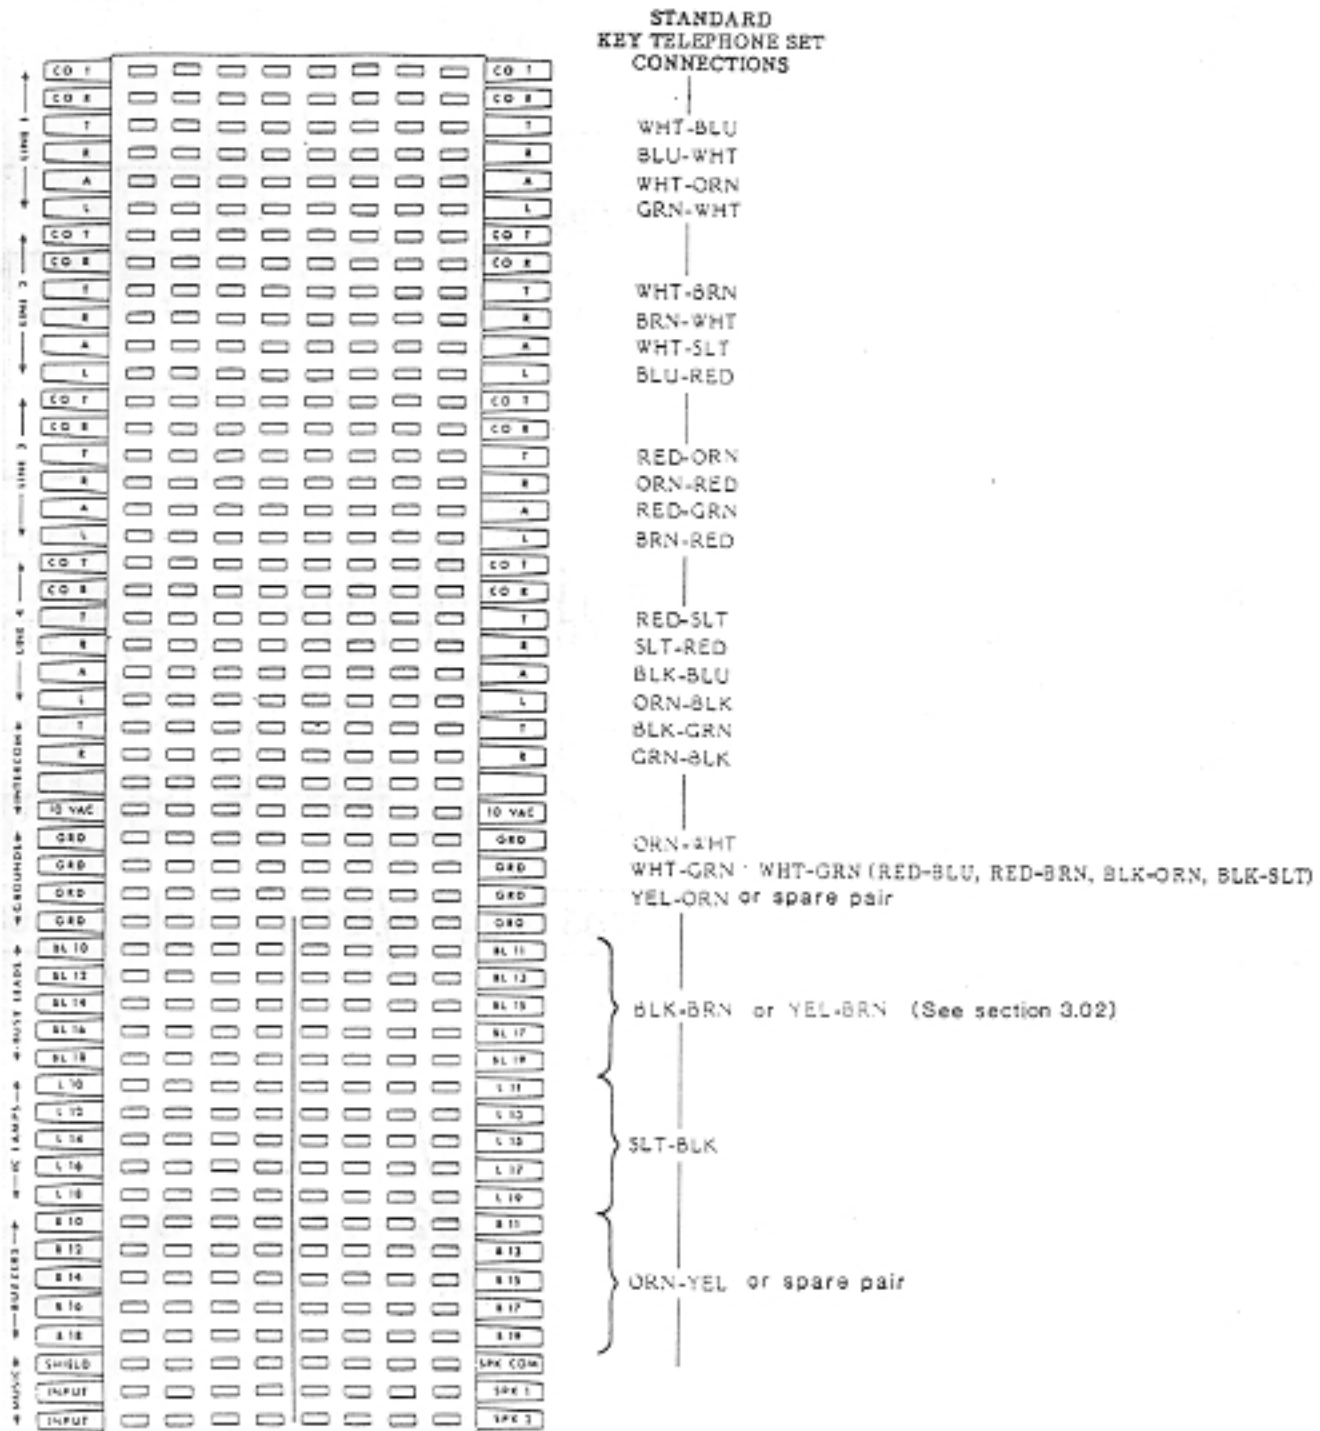
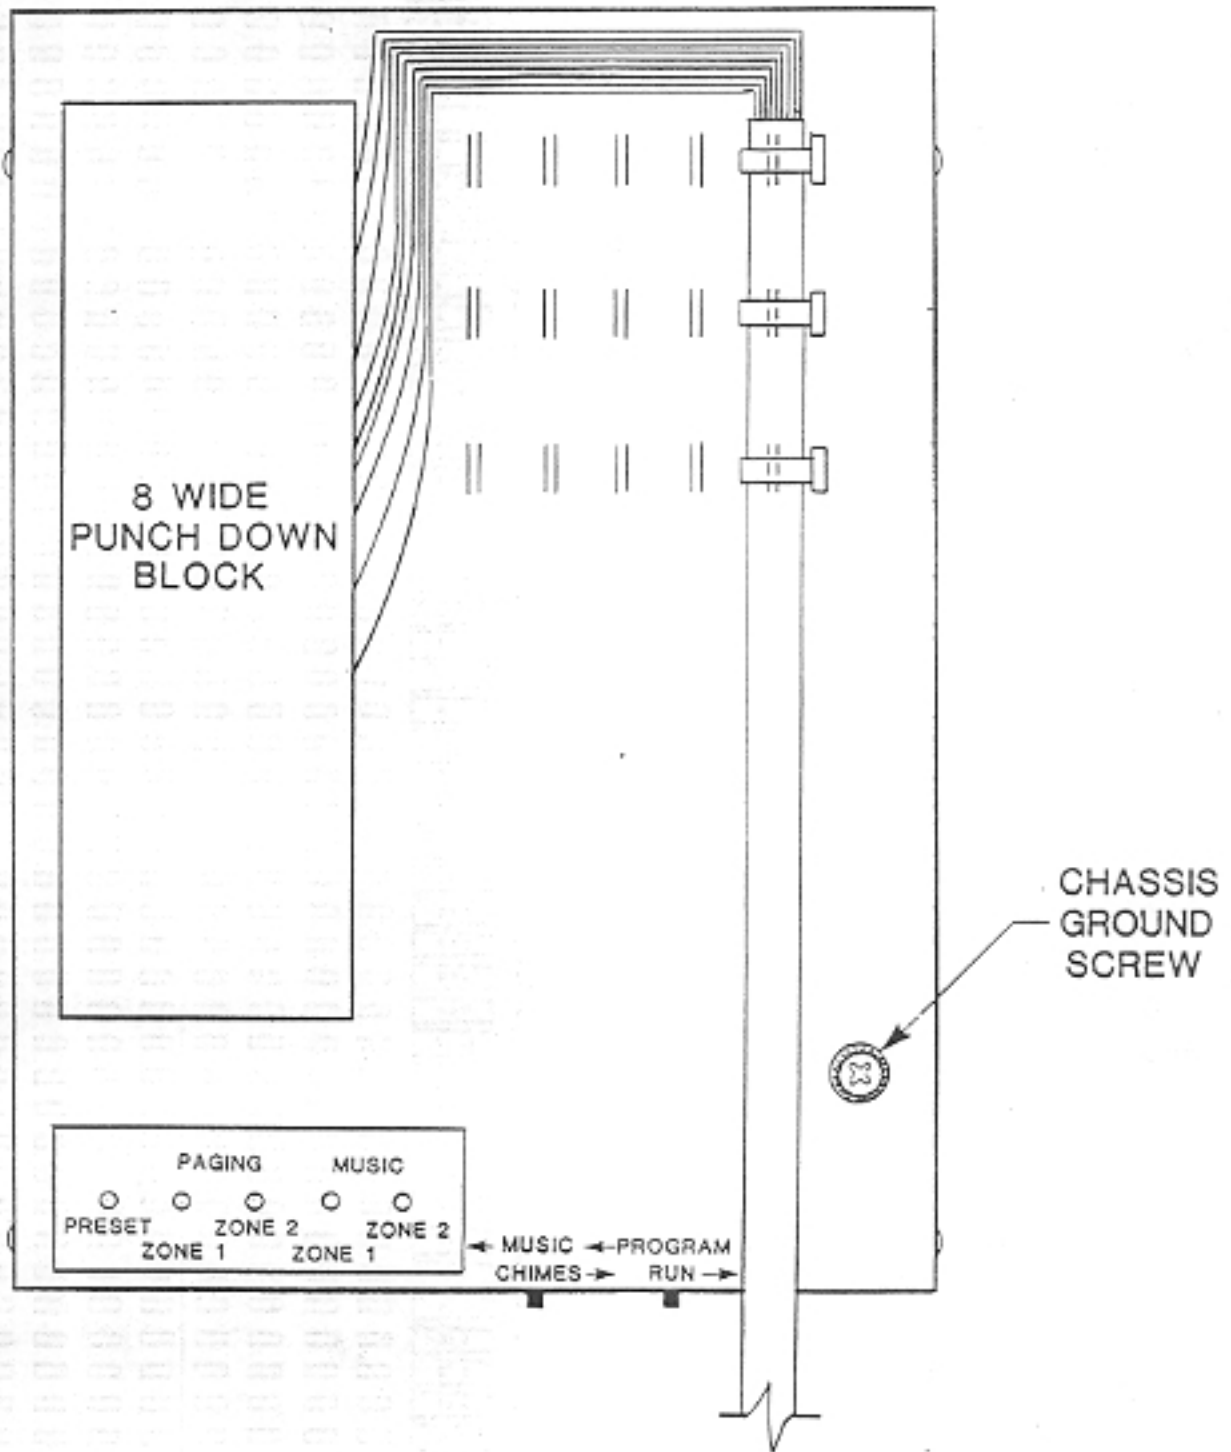

Fig. 3 -- Simplex 10 Typical Installation
Fig. 5 -- Simplex 10 Front Panel
Method 1. Consult the key telephone's schematic (available from its manufacturer). It shows various modifications that can be made. Make a diode busy lamp conversion. Connect the BL leads as shown in Figure 3.
6.01 The Simplex 10 comes with an eight wide block pre-wired to the system. Fig. 3 shows the labeled block and the color-coded 25-pair wiring connections to a standard 6-button key telephone set. The unit also provides tie-strap slots for strain relief and posts to loop the cabling to the block (see Fig. 5).
6.03 Connect each key telephone set cable as illustrated in Fig. 3. (Refer to Key Telephone Schematic to check connection compatibility.) If Off-hook Busy indication is desired on the intercom, connect the (YEL-BRN) or designated "BL-LEAD" to the appropriate "BL" terminal on the connecting block. If Off-hook Busy indication is not desired, connect the intercom A-led (BLK-BRN) to the appropriate "BL" terminal on the connecting block. (Refer to 3.02.)